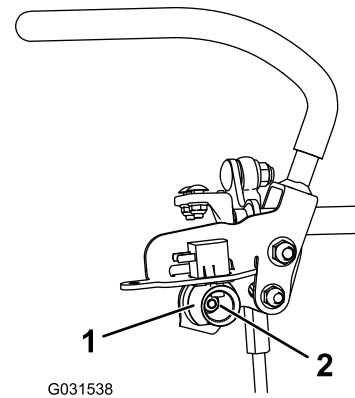

Figure 83
6. Loosen the nut holding the cam (Figure 83).